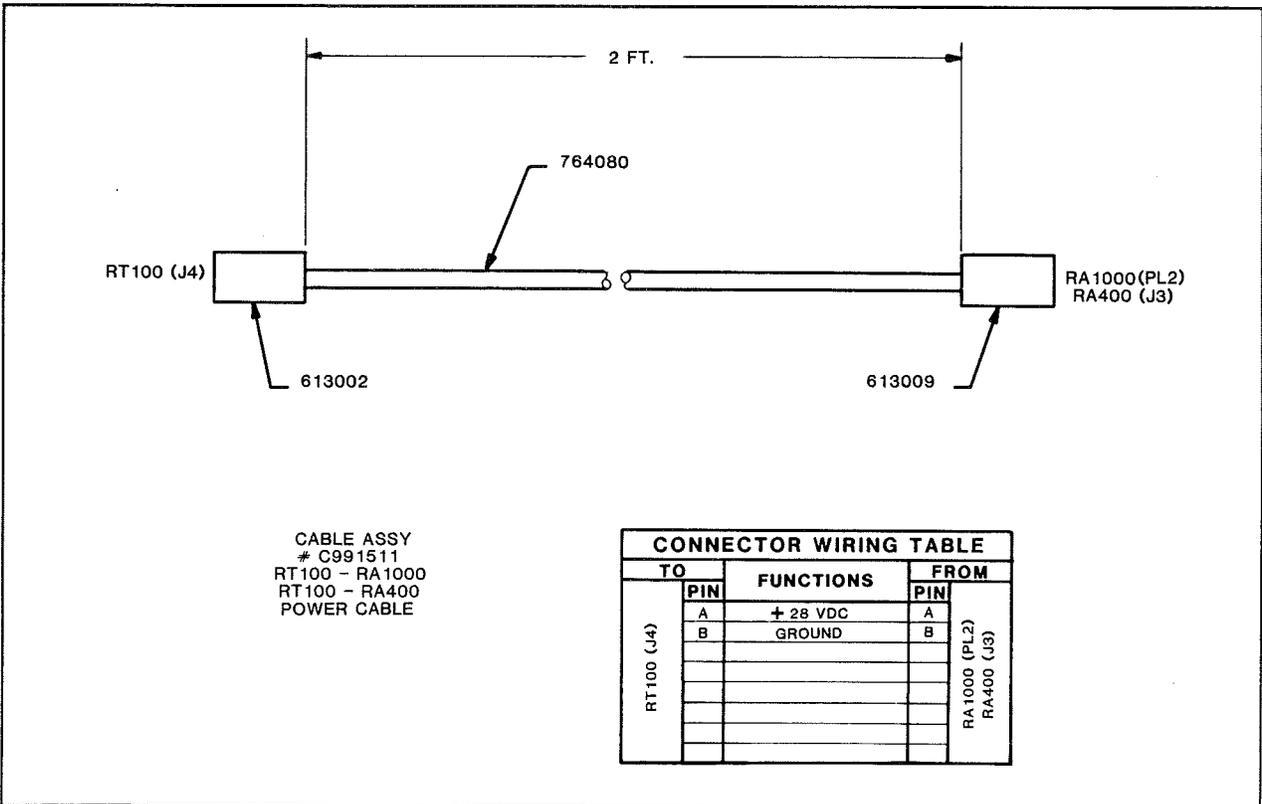

FIGURE 3-16. Power Cable (C991511).
1. C991511 -- See Figure 3-16.